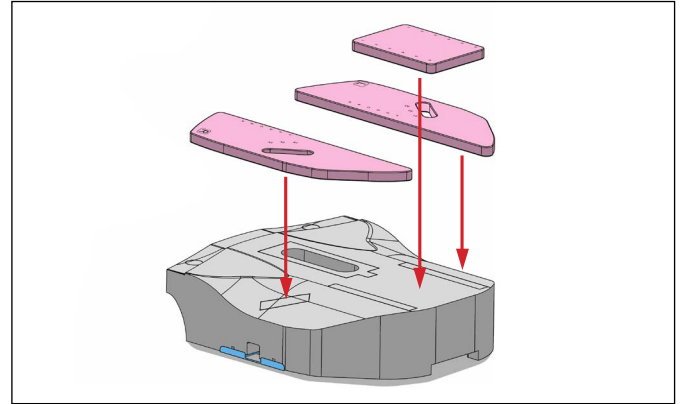

Fig. 6
2. Align Pads with the head end and handle holes of the Access™ Prone Head Component and adhere. Press firmly on the areas where the hook and loop squares are located. (Fig. 6)